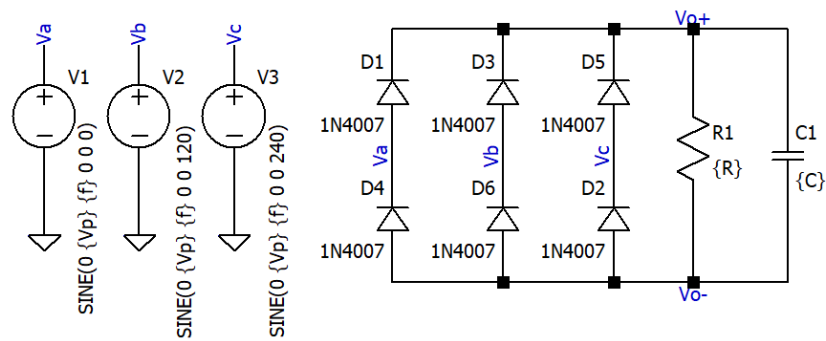

Figure 4.4 Uncontrolled 3-Phase full wave rectifier with capacitive load
1. Connect the circuit as shown in Figure 4.4 in LT-spice Program.